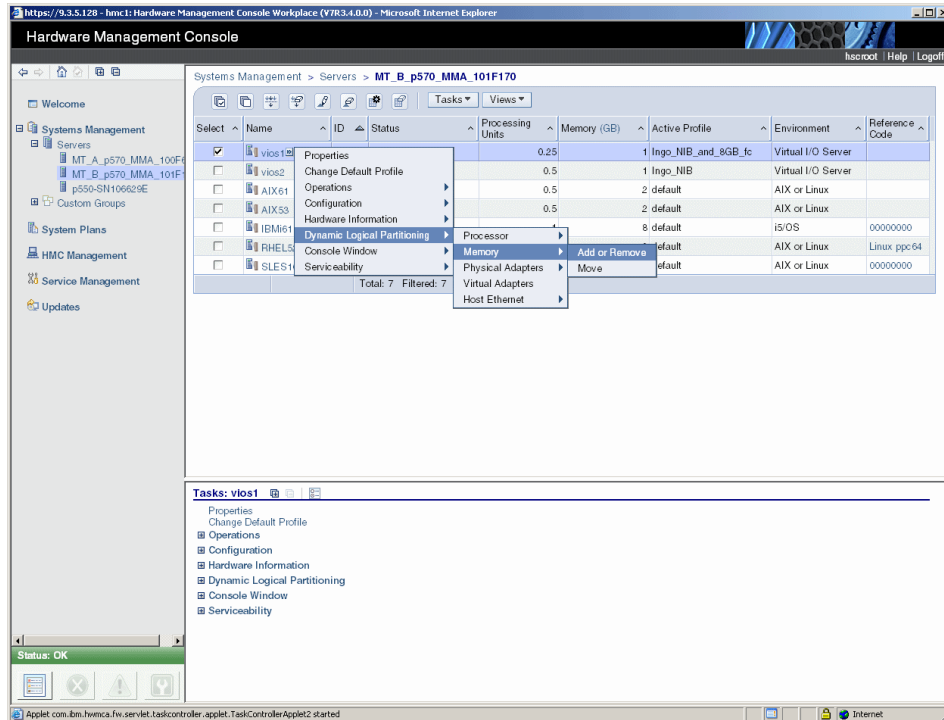

Figure 6-12 Add or remove memory operation
1. Select the logical partition where you want to initiate a dynamic LPAR operation. The first window in any dynamic operation will be similar to Figure 6-12.